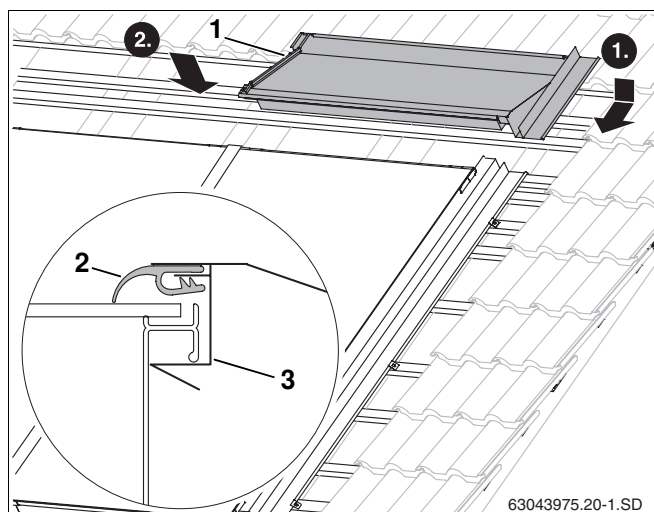

Fig. 54 Upper right facing collector
- Feed the upper right facing collector (Fig. 54, **Item 1**) into the side facing collector on the right.
- By applying pressure to the top of the facing collector, it clicks under the recessed channel on the collector frame (Fig. 54, **Item 3**).
- Place the rubber lip (Fig. 54, **Item 2**) on top of the collector.